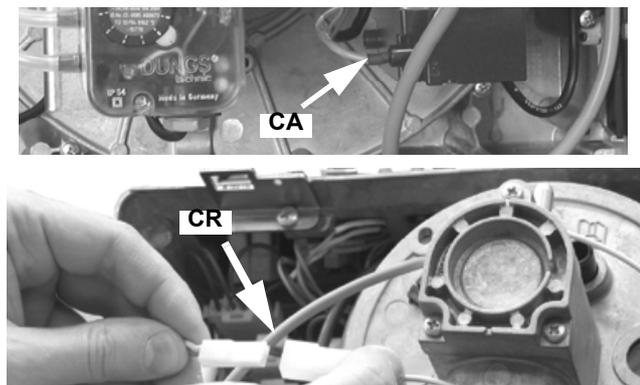

Fig. 56
- 3 Disconnect the ignition cable **CA** from the ignition transformer (Fig. 56).